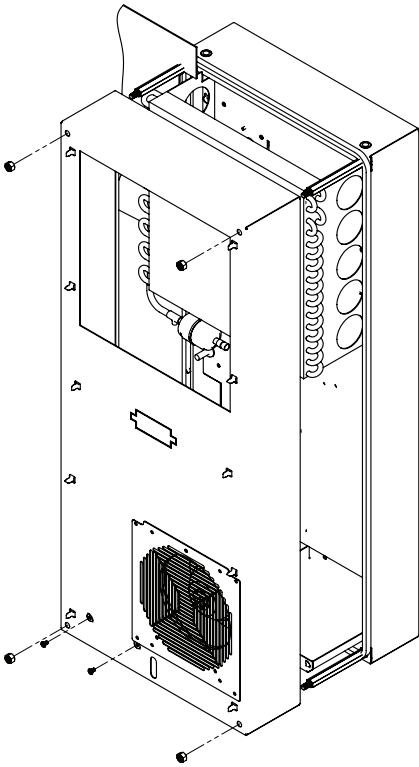

Figure 5
8. Push the rear enclosure half into the mounting cutout and secure it with the four standoffs. See Figure 5 on page 9.